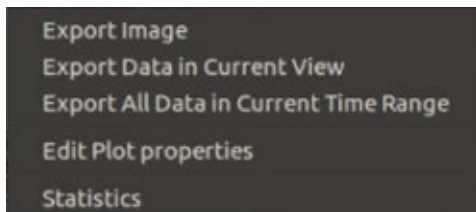

Figure 91: Canvas Right-click Pop-up Menu
2. Slide the adapter gasket PN 22929 onto the adapter fitting PN 22928 (Figure 91), screw it into the pump exhaust port, and then tighten it 1/4 turn using a 9/16" wrench.